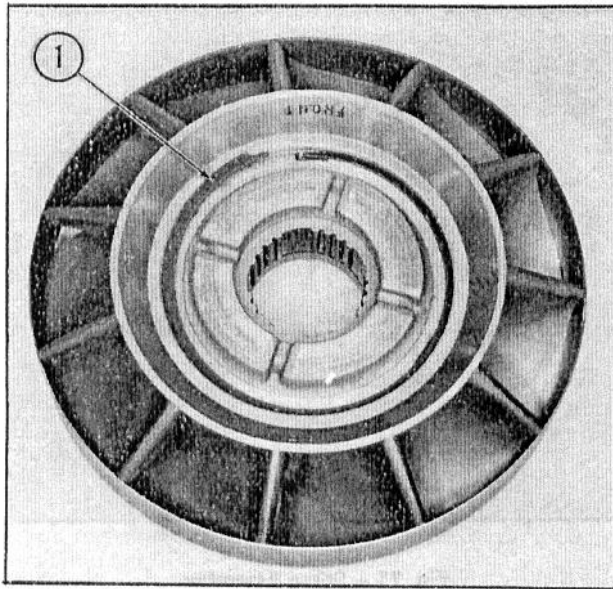

Fig. 5 - Stator Assembly
6. Using a screwdriver, remove the front thrust washer retaining snap ring. See Fig. 5.
3. Place the stator on the bench, with the side marked "FRONT" up (as shown in Fig. 5).